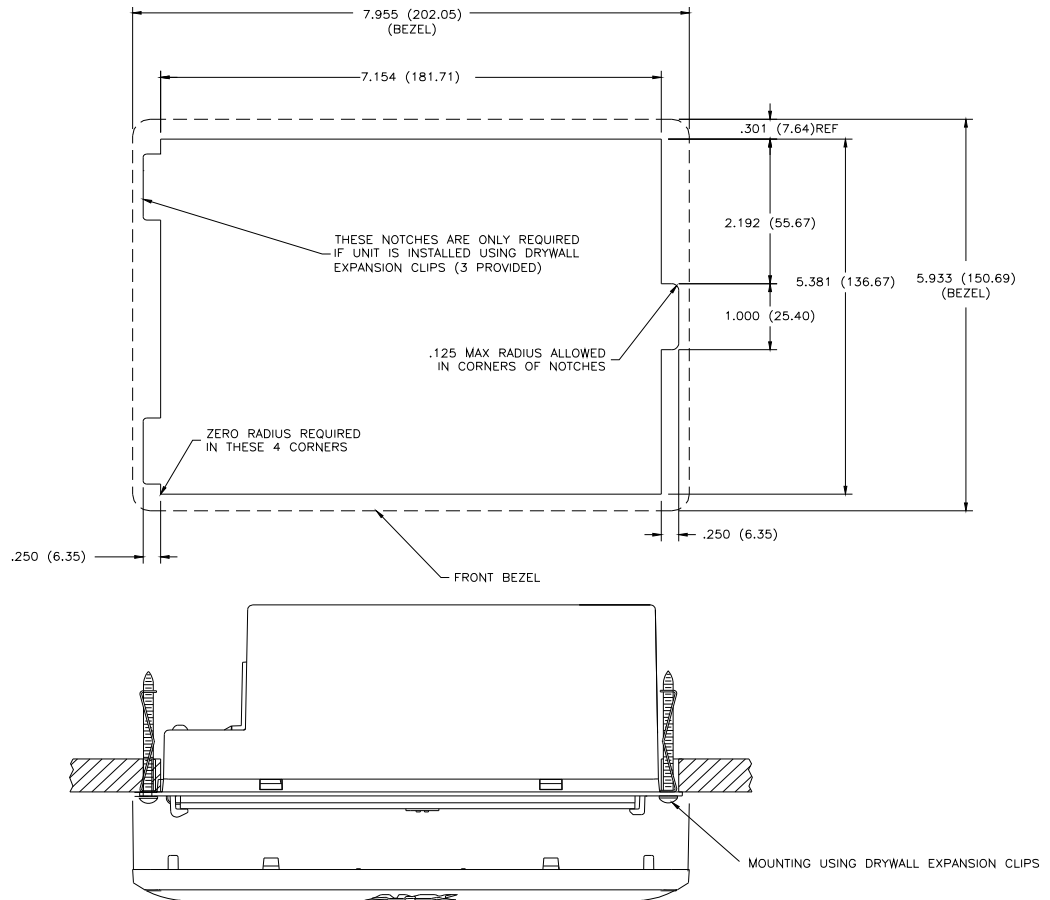

FIG. 13 NXD-700Vi Wall Mount panel dimensions using expansion clips
- Refer to **SP-2258-01** for detailed installation dimensions (reproduced in FIG. 13).
2. Cut out the surface for the NXD Wall Mount unit using the dimensions shown in FIG. 13. Be sure to cut out the three notches along the sides to accommodate the three corresponding drywall expansion clips (included).